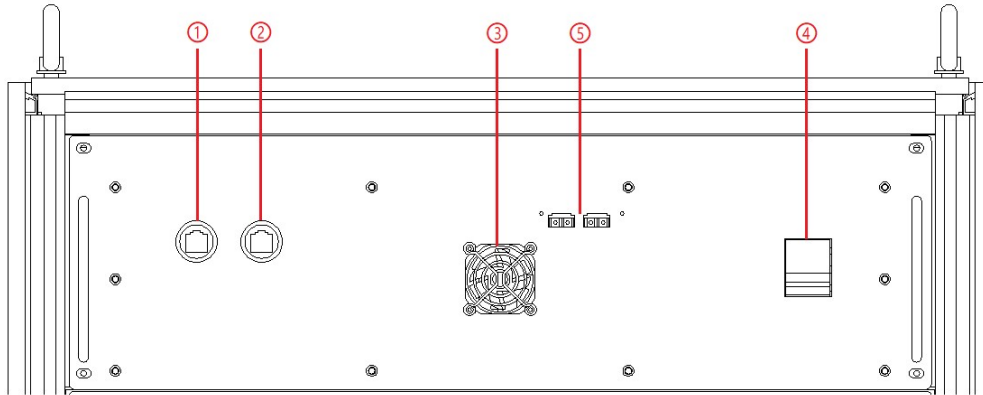

Figure 3-2 Control Modules
When the AC input side is powered on, open the cabinet door, close the power switch of the control module (Figure 3-2④), power to the product control module.